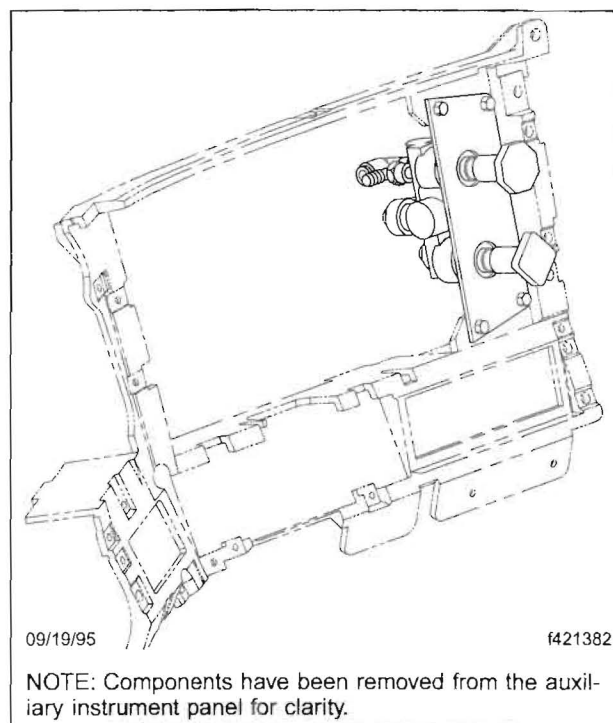

Fig. 4, MV-3 Control Valve Mounting
2. Remove the trim plate assembly from the radio and heater/air conditioner control panel. See Fig. 4.